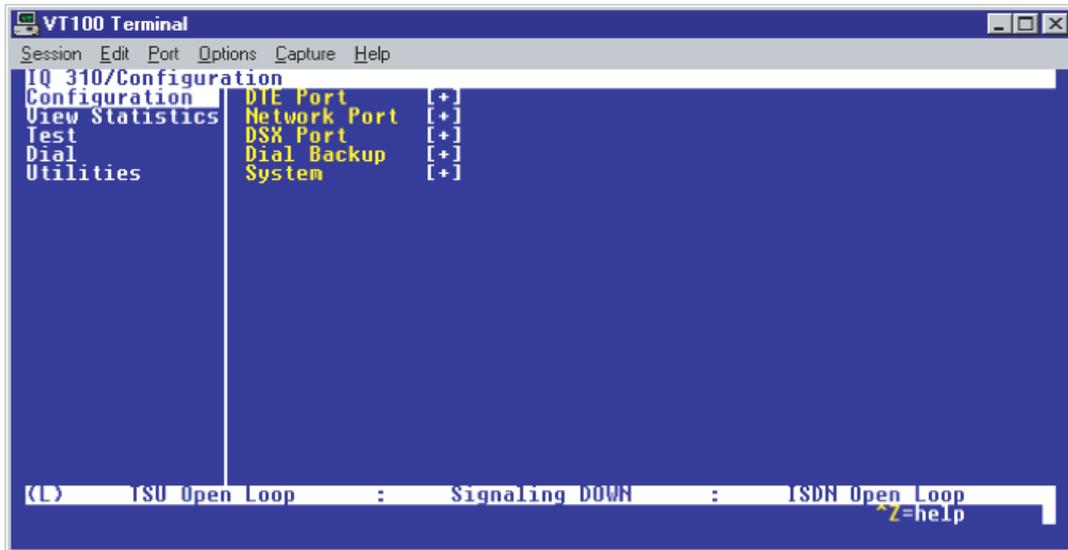
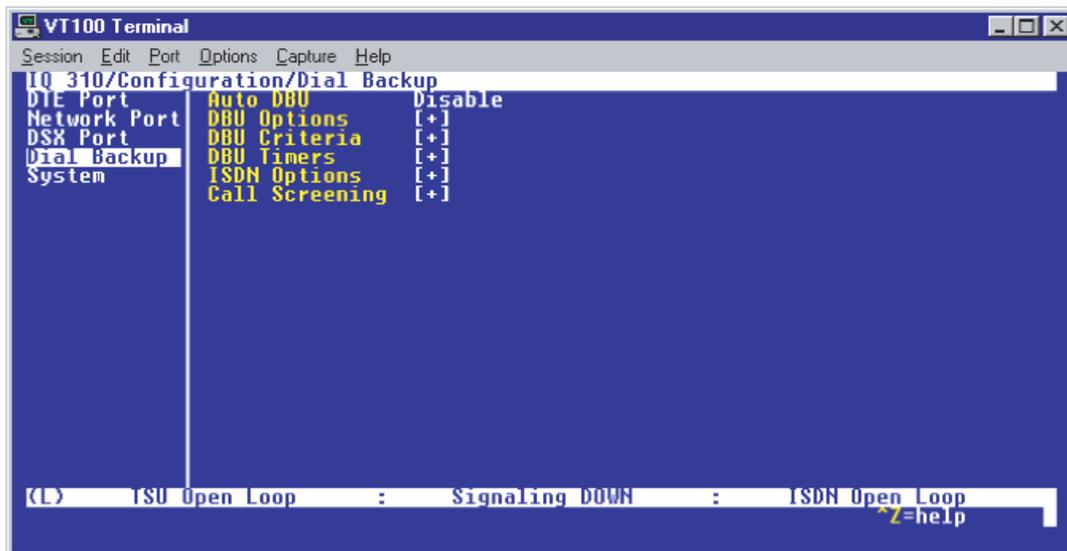

Figure 2. Main menu
Figure 3. Dial Backup Menu
1. From the **CONFIGURATION** menu terminal screen (Figure 2) of the IQ 310, select **CONFIGURATION** and press **<ENTER>**.
2. Using the arrow keys, select **DIAL BACKUP** from the **CONFIGURATION** menu shown in Figure 2; then press **<ENTER>**. The resulting screen is displayed in Figure 3.